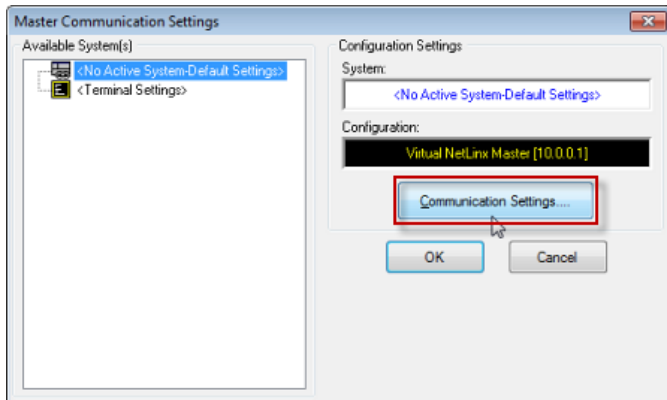

FIG. 18 NetLinx Studio - Master Communication Settings dialog
- Select **Settings > Master Communication Settings** from the Main menu to open the *Master Communication Settings* dialog (FIG. 18):